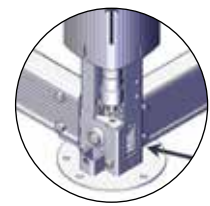

FIGURE 78: ACCESS TO THE CHAINS
- Lift up the sleeve by hand and keep it safely in position with a wooden block, see Fig. 78
- Locate the chain inside the post. The opening at the bottom of the post allows access to the chain, see Fig. 78